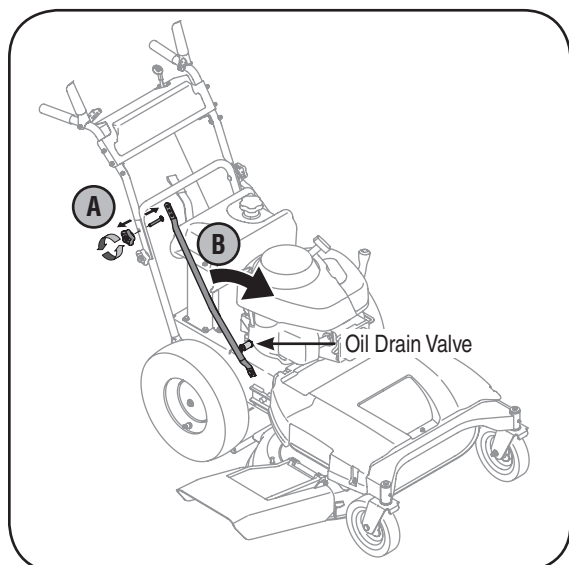

Figure 5-3: Pivot the right brace support tube forward to gain access to the oil valve.
- Remove the upper star knob and carriage screw on the right side of the handle, Figure 5-3.
- Pivot the brace tube forward towards the front of the mower to allow room to connect the oil drain hose to the oil drain valve, Figure 5-3.